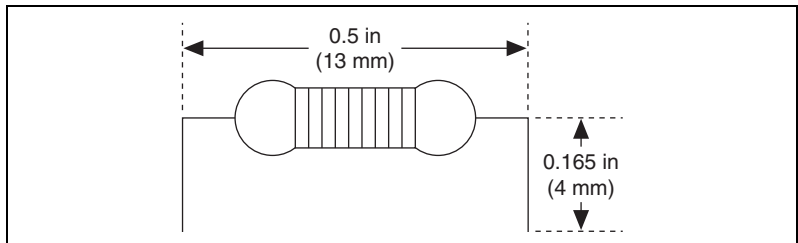

Figure B-6. Preparing Lead Wires of Replacement Resistors
2. Cut and bend the lead wires of the resistors you want to install. Refer to Figure B-6.